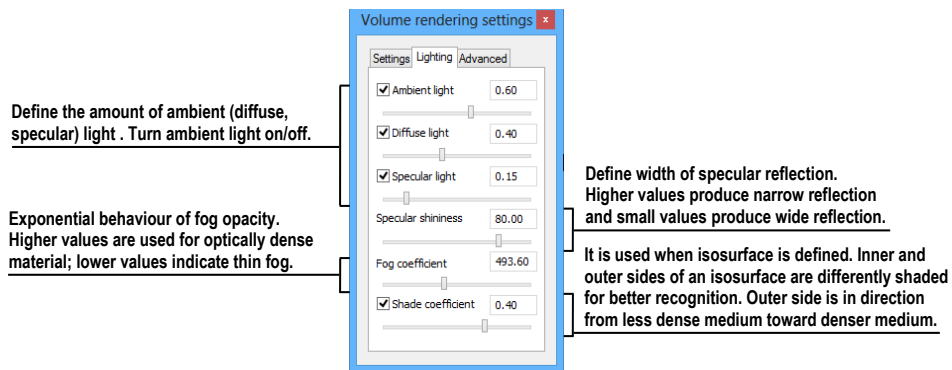

Figure 323 – Volume rendering settings, the second tab
- lighting settings used in volume rendering on the second tab (see Figure 323)